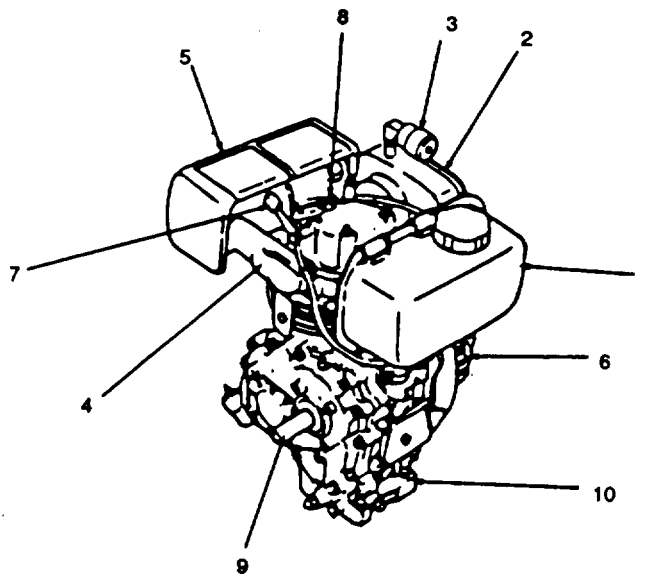

Figure 1-5. Diesel Engine, Major Components and Principles of Operation
a. *Diesel Engine Major Components* (See Figure 1-5).
- (a) A fuel tank (1) is attached to the engine to provide fuel during operation.